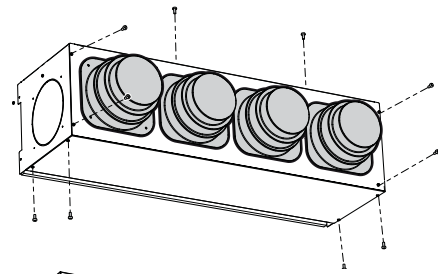

Fig.9
- Remove the ten screws of the PA_V accessory (fig.9). For size PA670V the two lower screws of the internal support bracket must also be removed
- Remove the ten fastening screws of the plenum closure (fig.9). For size PA670V the two lower screws of the internal support bracket must also be removed